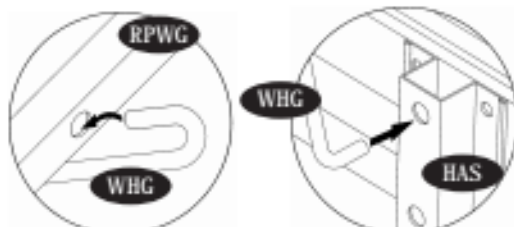

Fig.1
22. Place the Roof Panel Window (RPWG) on top of the Roof Panel (RP2AG). Fix the hinges through the roof panel to Hinges Support (HS) with (S1) screws see fig.
23. Insert the Hook (WHG) to the Roof Panel Window (RPWG) see fig. 1.